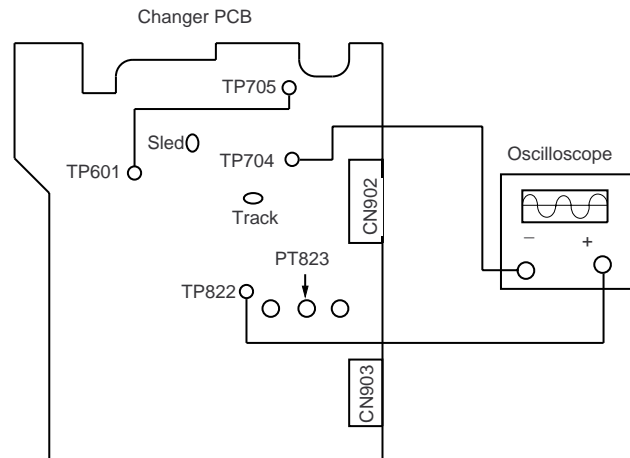

Figure 2. Tracking Balance Alignment
2.2 Connect **TP601** (TEST) to **TP705** (GND). See Figure 2.